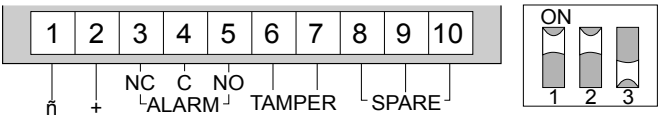

Figure 3
- Strip outer jacket approximately 2 inches (50mm) and pull it through the cable entry hole (3) and strain relief.
- Wire the detector and select the appropriate processing options as shown in Figure 3 and replace the sensor module (6).
- To mount the sensor module to the mounting plate use the screw (7) which is placed for transport in the mounting plate.